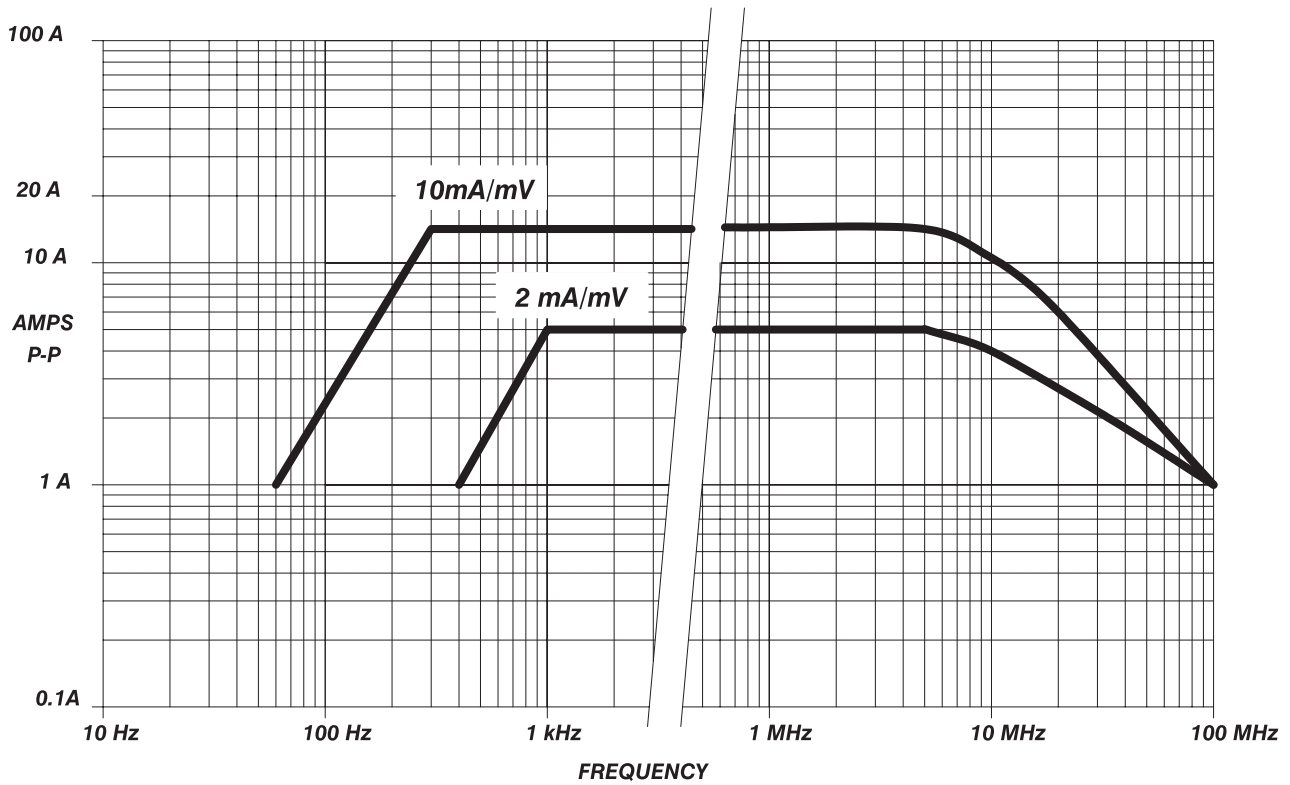

Figure 3: Probe and termination input current vs. frequency derating
| Maximum Continuous (CW) Current                        | Refer to Figure 3 for frequency derating curves   |